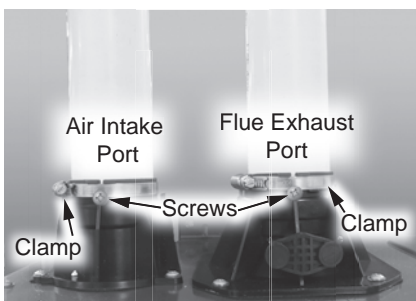

Figure 59 - Flue exhaust port and intake air port location
2 Locate the flue exhaust port and intake air port. See Figure 59.
3 Remove the two (2) screws securing the intake air and exhaust piping to the ports. Place the screws aside in a safe place for reinstallation. See Figure 59.
9 Reinstall the two (2) screws removed in **Step 3**. See Figure 59.